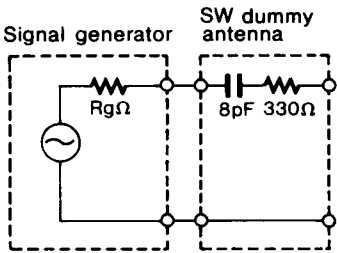

Fig. 9
7. SW. dummy antenna is shown in Fig. 9